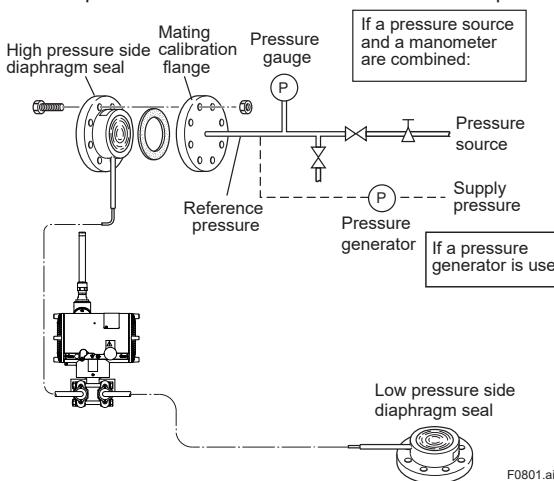

Figure 8.1 Instrument Connections
- Connect the devices as shown in Figure 8.1 and allow the transmitter to warm up for at least 5 minutes.